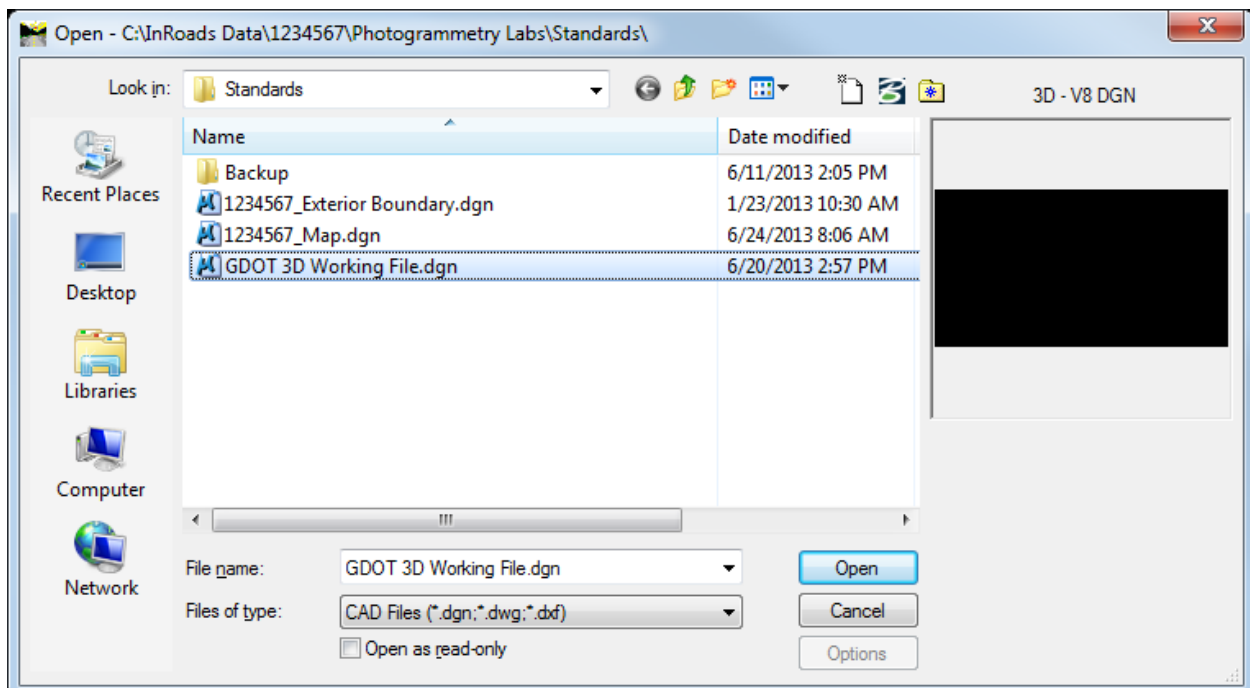

Figure L2-8 MicroStation – Open dialog
16.	<p>The GDOT 3D Working File.dgn will be re-opened.</p> <ul style="list-style-type: none"> In the [MicroStation Software] pull-down, navigate to the C:\InRoads Data\1234567\Photogrammetry Labs\Standards folder and select the “GDOT 3D Working File.dgn”. Click Open. See Figure L2-8 (as shown below). <p>Opens the GDOT 3D Working File DGN.</p>